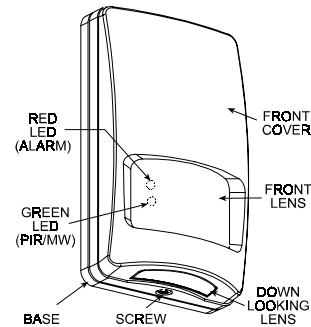

Figure 1. DUO 220 General View
- Loosen and remove the screw at the bottom of the case (Fig. 1) and then take the cover off.
The two LEDs (Fig. 1) are used to signal various alarm and trouble messages as shown in Table 1 below: